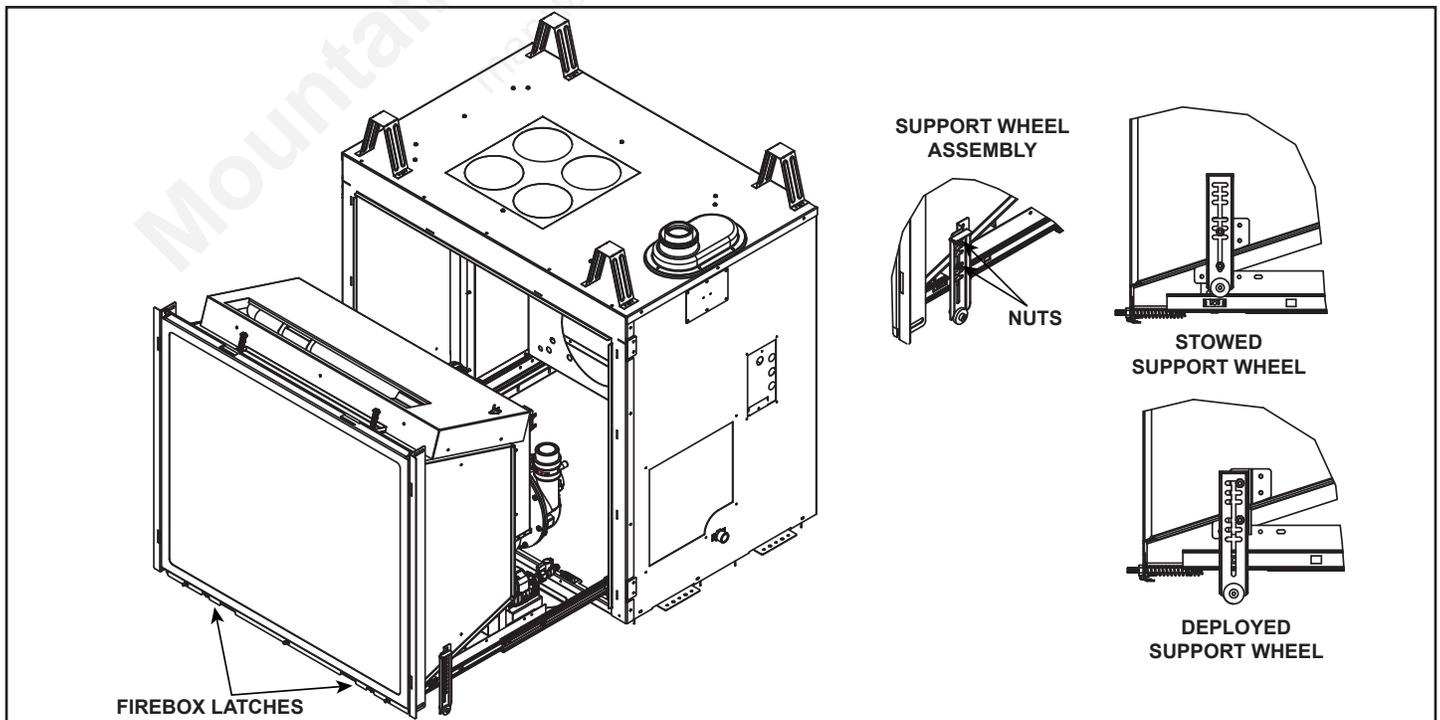

Figure 16.1 Disengage Firebox from Outer Shell
- Disengage the latch and pull the firebox out. Refer to Section 16 for instructions and see Figure 16.1.
In order to perform certain setup and maintenance tasks, it will be necessary to partially separate the firebox from the outer shell of the appliance. Use a Phillips screwdriver to loosen the 1/4 turn fasteners on the two latches on the lower front face of the appliance and pull the firebox out carefully using both hands. See Figure 16.1.